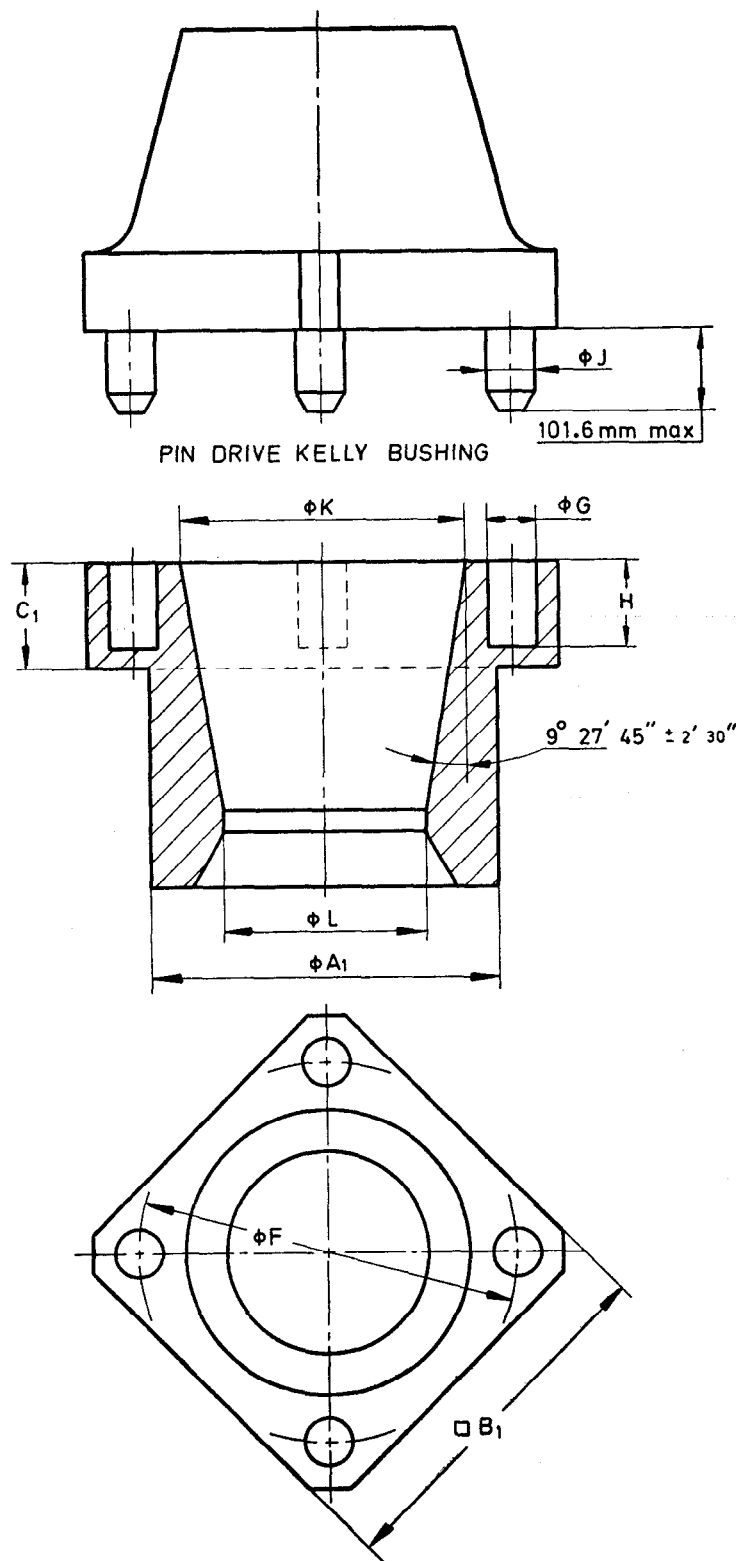

FIG. 3 FOUR PIN DRIVE MASTER BUSHING AND KELLY BUSHING
**3.4** The square drive master bushings shall conform to the dimensions specified in Table 2 and shown in Fig. 2B. Dimensions for four-pin drive master bushing and kelly bushing shall conform to the dimensions specified in Table 3 and given in Fig. 3.
- b) Pin drive kelly bushing complying with Fig. 3 and Table 3.
( Clause 3.4 and Fig. 3 )